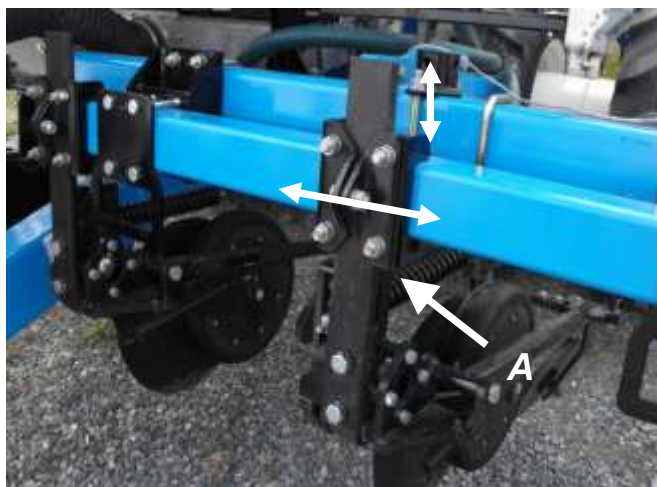

Figure 12B
To move the fertilizer disks, you need to slightly unscrew the nuts on the U-bolts [Figure 12B, **A**] and then push the disk at the right location.
4. Make sure the fertilizer disks are at the right height. At the factory they adjust the disks so the fertilizer is at 10 cm / 4” deep in the soil. [Figure 12B].